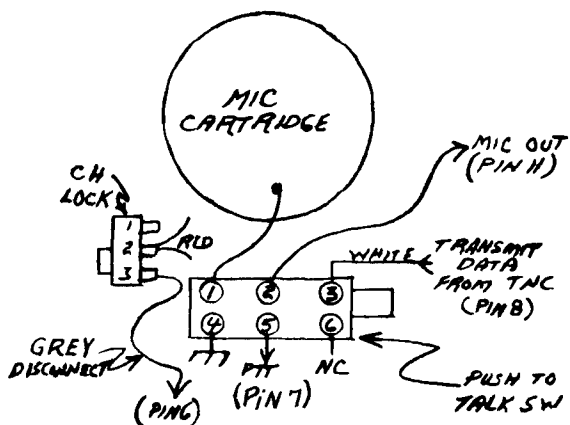

FIG 2
The transmit data signal was wired directly to the microphone input, and the output amplitude resistor of the modem (Pin 3 of XR2206) adjusted to present the same levels to the input amp as the microphone. The problem with this arrangement is that the TNC sends flags continually in an idle state and a switch must be introduced to select either the TNC or the mike. This proved inconvenient since I kept forgetting to throw the switch when going from voice to data. The cure was to wire transmit data to the PTT switch inside the microphone case (Fig. 2).
- Connect this white wire to Pin 3 of the push-to-talk switch (Fig. 2).
- A. **Caution:** Disconnect the lead-to-channel-lock switch in the microphone and tape (gray lead on Pin 3, Fig. 2).